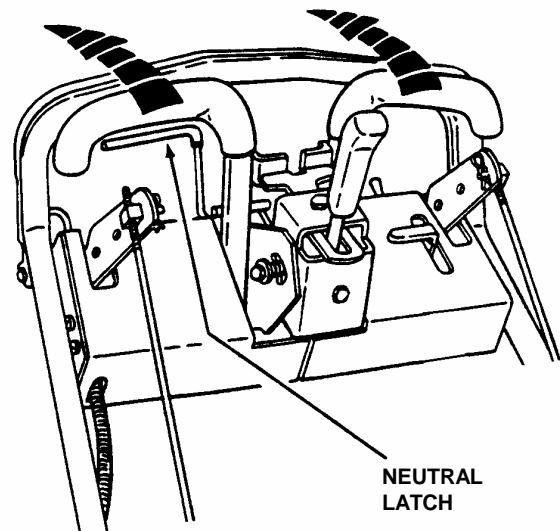

FIGURE 3.6
4. To start machine movement, simultaneously squeeze both Traction Levers SLOWLY back towards the handlebar, allowing machine to start reverse movement. See Figure 3.6.